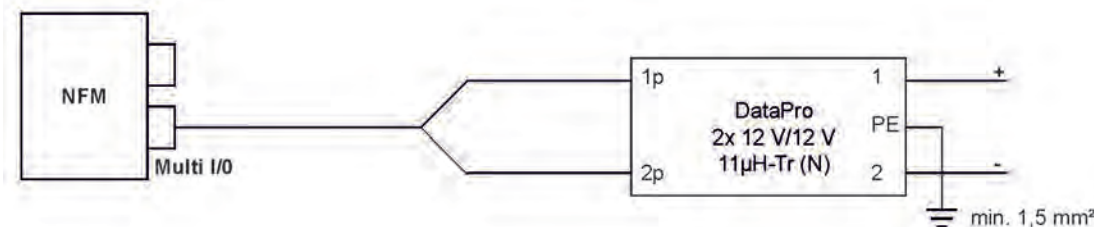

Fig. 25-6 Overvoltage protection for power supply DC general
For **direct external power supply** via 12 V DC (e.g. for solar power supply), use the types DataPro 2x1 12V/12V-11mH-Tr(N) for non-Ex areas (Fig. 25-6).